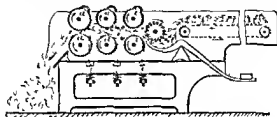

FIG. 74.—A Bale breaker
*breaker* (Fig. 74) and carried through a series of spiked rollers revolving at different speeds so as to